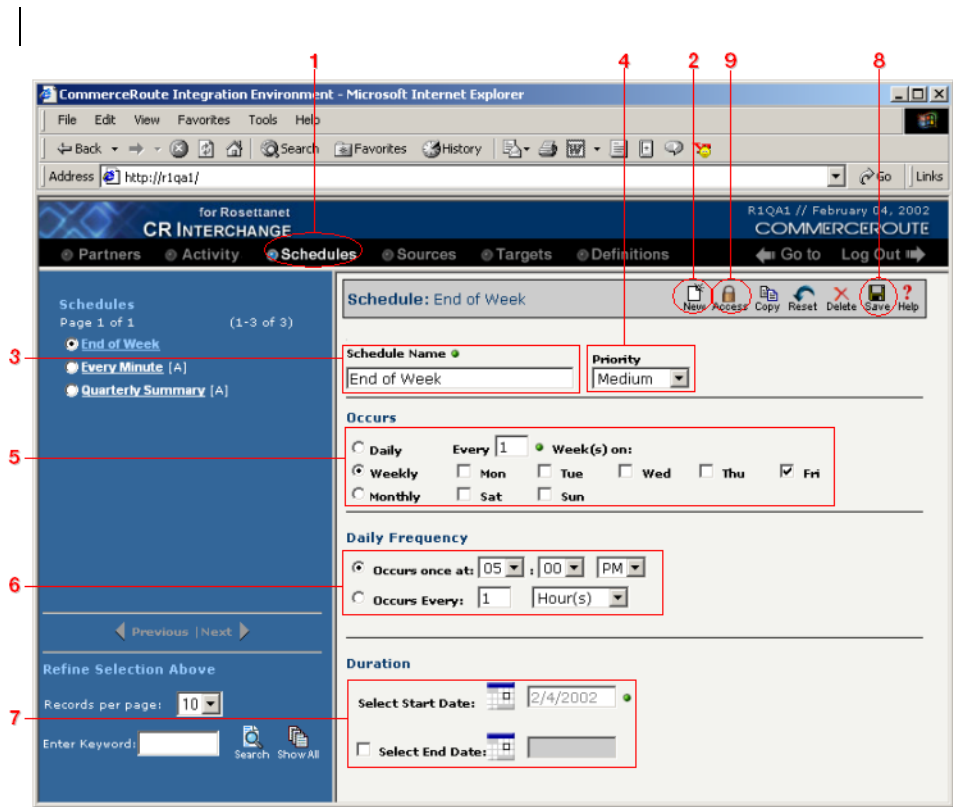

Figure 3-2. The completed End of Week schedule definition.
- ❶ Click on the **Schedules** button in the main navigation bar at the top of the screen (see screen below).
- ❷ If a new schedule isn't already open, click the **New** button in the toolbar.
- ❸ Since this schedule is designed to run at the end of each week, type in End of Week in the **Schedule Name** field.
- ❹ Adjust the priority of this schedule to the appropriate level using the **Priority** drop-down menu.
- ❺ Select the **Weekly** button in the **Occurs** section, type a 1 in the **Every...Week(s) on** field, then select the **Friday** checkbox.
- ❻ Select the **Occurs Once at:** field and set the time you want this schedule to run, such as 5 : 00pm.
- ❼ Click the calendar button to set the **Start Date** to today, but leave the **No End Date** option off, since we want this schedule to always run.
- ❽ You’ve finished this schedule, so click the **Save** button in the toolbar to save your changes. Note that you now have a new “End of Week” schedule definition selected in the schedule list at the left side of the screen. Your schedule should resemble Figure 3-2 below.
- ❾ You could optionally give other users and groups access to this new schedule by clicking the **Access** button in the toolbar and selecting their names from the Prohibited Access list and clicking the **Add** button. For this example, let’s just leave you with sole access.